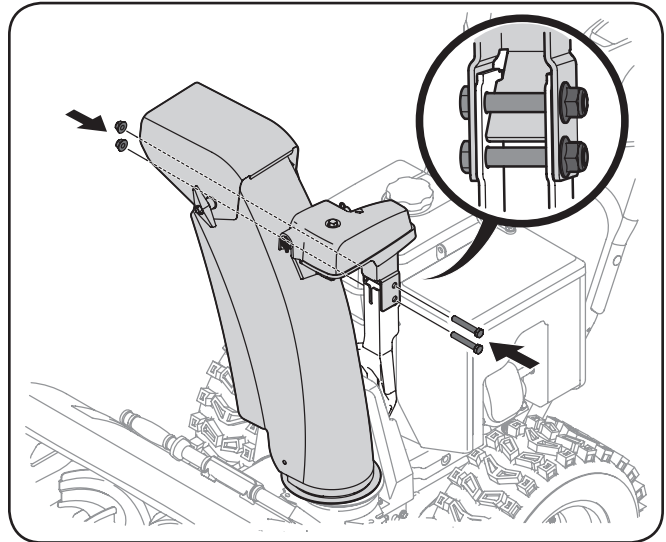

**Figure 3-6**
3. Secure chute control head to chute support bracket with the lock nuts and hex screws removed earlier. See Figure 3-6.